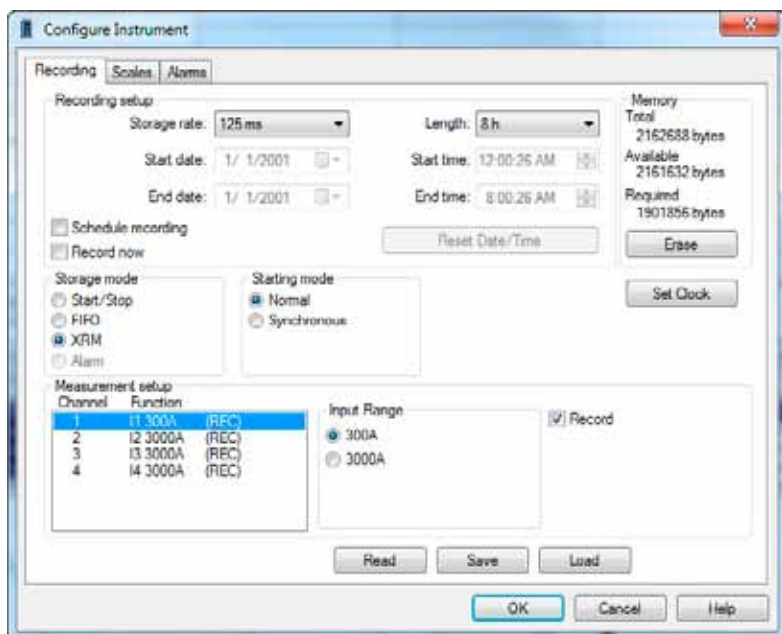

Figure 4-6
2. Next, select **Configure** from the **Instrument** menu. The Configure Instrument dialog box, similar to Figure 4-6, will be displayed.